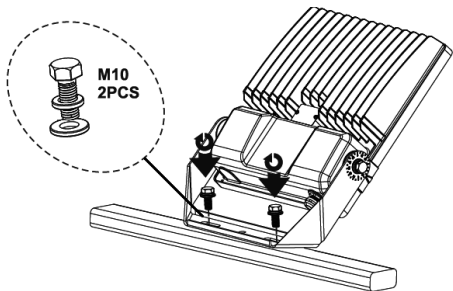

Fig. 1
- Fix the luminaire using suitable fixings (not provided) to the surface (see Fig.1)